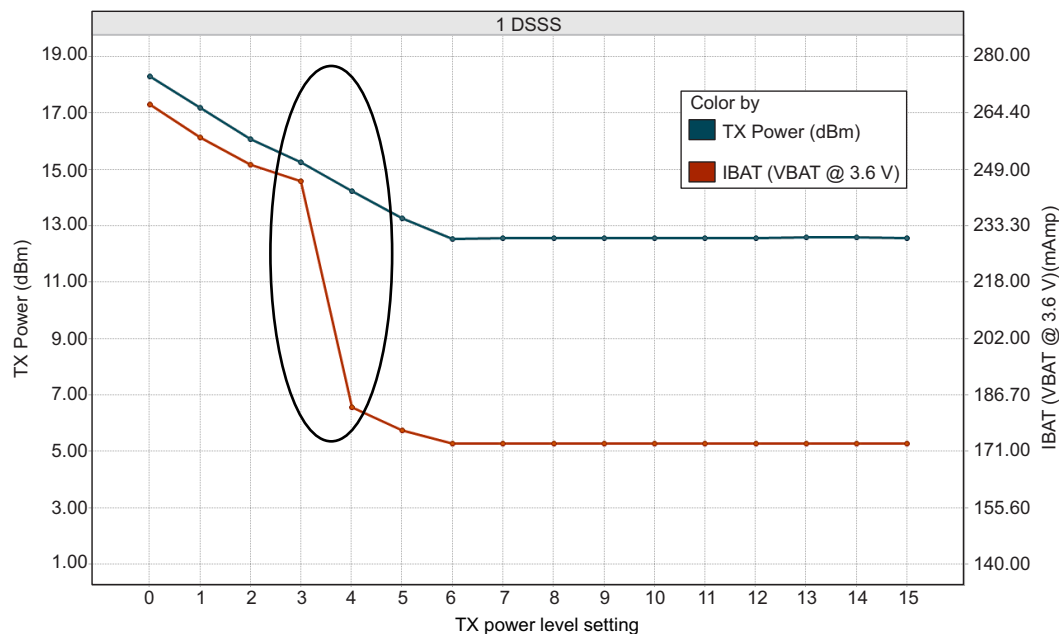
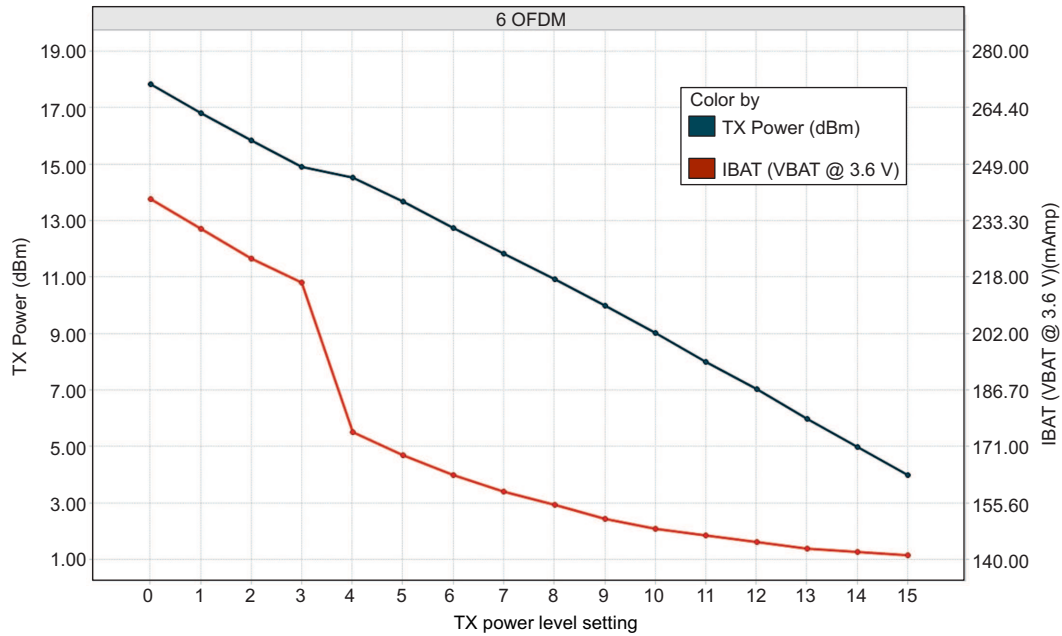
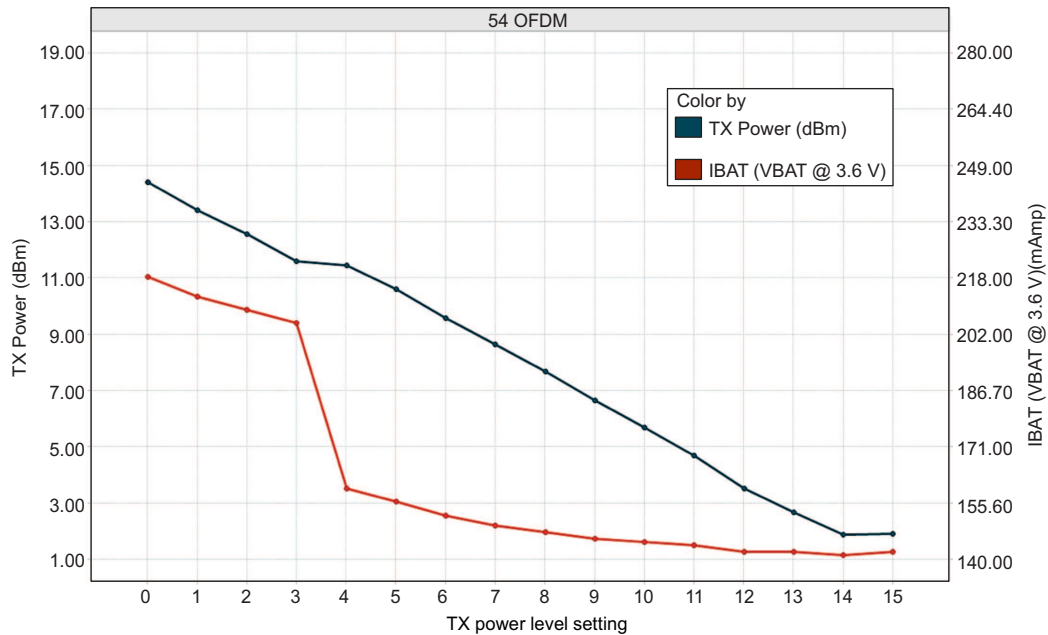

Figure 5-1. TX Power and IBAT vs TX Power Level Settings (1 DSSS)
Figure 5-2. TX Power and IBAT vs TX Power Level Settings (6 OFDM)
Figure 5-3. TX Power and IBAT vs TX Power Level Settings (54 OFDM)
(1) TX power level = 0 implies maximum power (see Figure 5-2, Figure 5-2, and Figure 5-3). TX power level = 4 implies output power backed off approximately 4 dB.
(2) The CC3235MODS and CC3235MODAS system is a constant power-source system. The active current numbers scale based on the V_{BAT} voltage supplied.
(3) Typical numbers assume a VSWR of 1.5:1.
(4) DTIM = 1
(5) LPDS current does not include the external serial flash. The CC3235MODx and CC3235MODAx can be configured to retain 0 KB, 64 KB, 128 KB, 192 KB, or 256 KB of SRAM in LPDS. Each 64-KB block of MCU retained SRAM increases LPDS current by 4 μA .
(6) The complete calibration can take up to 17 mJ of energy from the battery over a period of 24 ms. Calibration is performed sparingly, typically when coming out of HIBERNATE and only if temperature has changed by more than 20°C. The calibration event can be controlled by a configuration file in the serial flash.
Figure 5-1, Figure 5-2, and Figure 5-3 show TX power and IBAT versus TX power level settings for the CC3235MODS module at modulations of 1 DSSS, 6 OFDM, and 54 OFDM, respectively. For the CC3235MODSF module, the IBAT current has an increase of approximately 10 mA to 15 mA depending on the transmitted rate. The TX power level remains the same.
In Figure 5-1, the area enclosed in the circle represents a significant reduction in current during transition from TX power level 3 to level 4. In the case of lower range requirements (14-dBm output power), TI recommends using TX power level 4 to reduce the current.